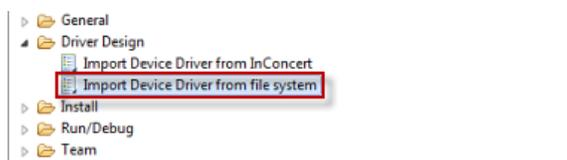

FIG. 25 Import Wizard: Select dialog - Import Device Driver From file system
2. In the *Select an import source* window, select **Driver Design > Import Device Driver From File System** (FIG. 25):